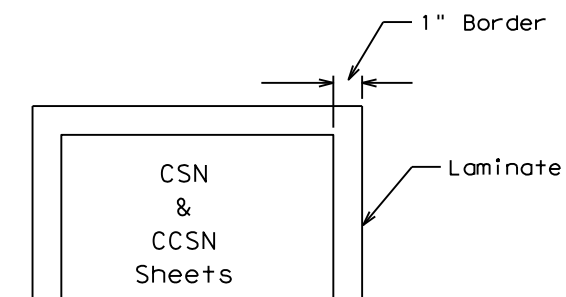

Figure 1
- CSN & CCSN Sheets will be laminated and attached to the sign with an adhesive. Ensure sheets remain dry. (See Figure 1).